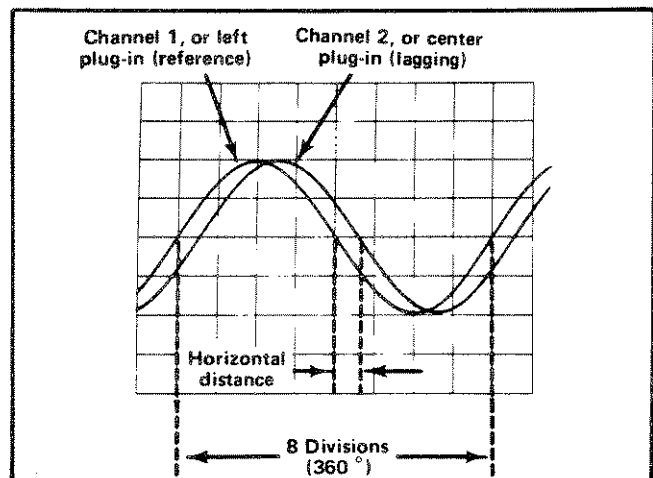
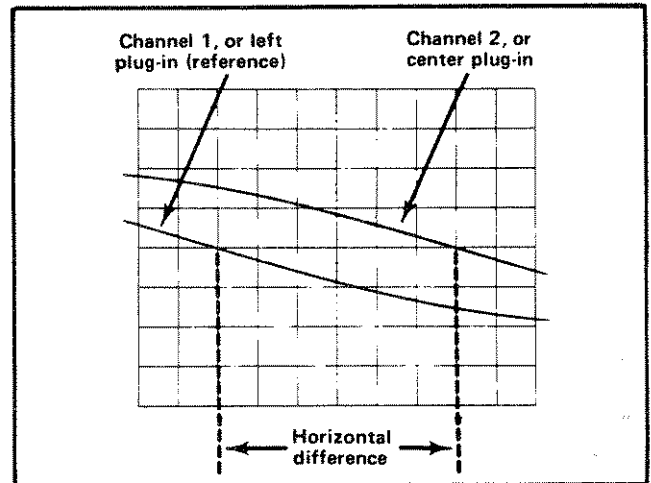

Fig. 1-11. Measuring phase difference.
Fig. 1-12. High-resolution phase difference measurement with increased sweep rate.
9. Turn the variable Sec/Div control until one cycle of the reference signal (Channel 1, or left plug-in) occupies exactly eight divisions between the second and tenth vertical lines of the graticule (see Fig. 1-11). Each division of the graticule represents 45° of the cycle ($360^\circ \div 8 \text{ divisions} = 45^\circ/\text{division}$). The sweep rate can be stated in terms of degrees as $45^\circ/\text{division}$.
EXAMPLE: Assume a horizontal difference of 0.6 division with a sweep rate of 45°/division as shown in Fig. 1-11. Use the formula:
EXAMPLE: If the sweep rate were increased 10 times with the magnifier, the magnifier sweep rate should be 45°/division ÷ 10 = 4.5°/division. Fig. 1-12 shows the same signals as used in Fig. 1-11, but with the Swp Mag button pushed in. With a horizontal difference of six divisions the phase difference is: